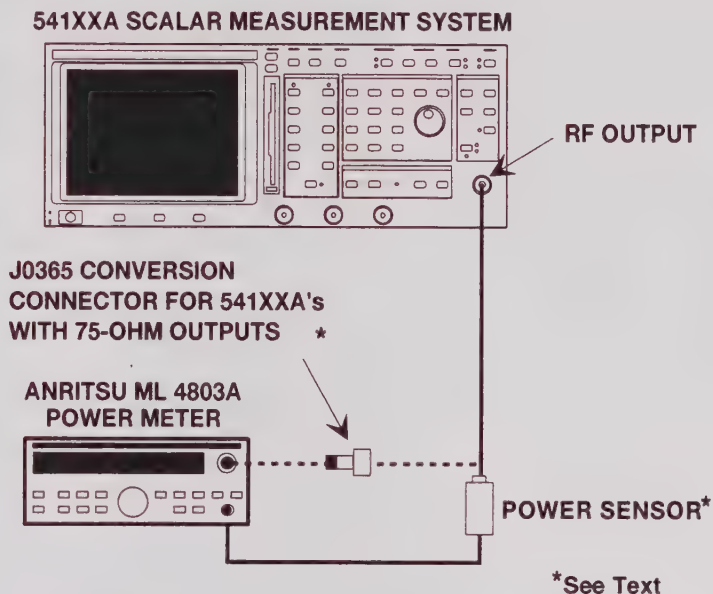

Figure 5-2. Test Setup for Output Power Accuracy / Flatness Test
Step 1. Set up the equipment as shown in Figure 5-2, and turn the equipment on.